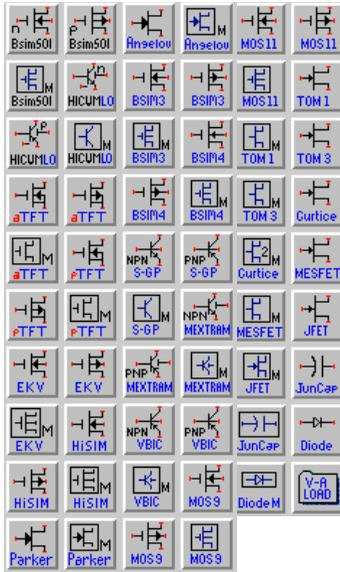

Figure 1-5. Devices-Verilog-A Component Palette
5. Close the Install Design Kit dialog box and open a schematic window. The *Devices-Verilog-A* palette should now be available in the Component Palette List. Figure 1-5 shows the icons for each of the devices and models available in the *Devices-Verilog-A* palette.